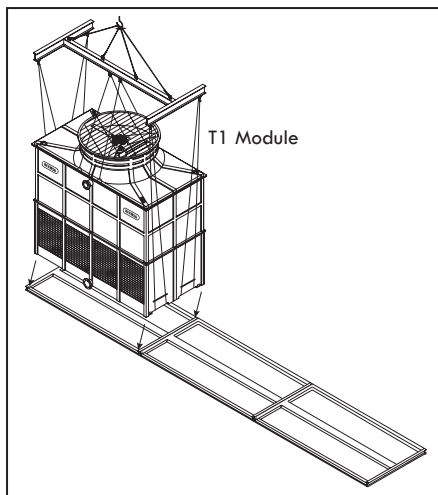

Figure A-89: First T1 Module lifting and installation for a modular tower (RTGM-B-S)
- A. Lift the first module using a crane and a spreader bar and place it on top of the isolation pad and the steel base structure. Secure it with the stainless steel nut and bolts sets (supplied by others) as shown on Figure A-89.